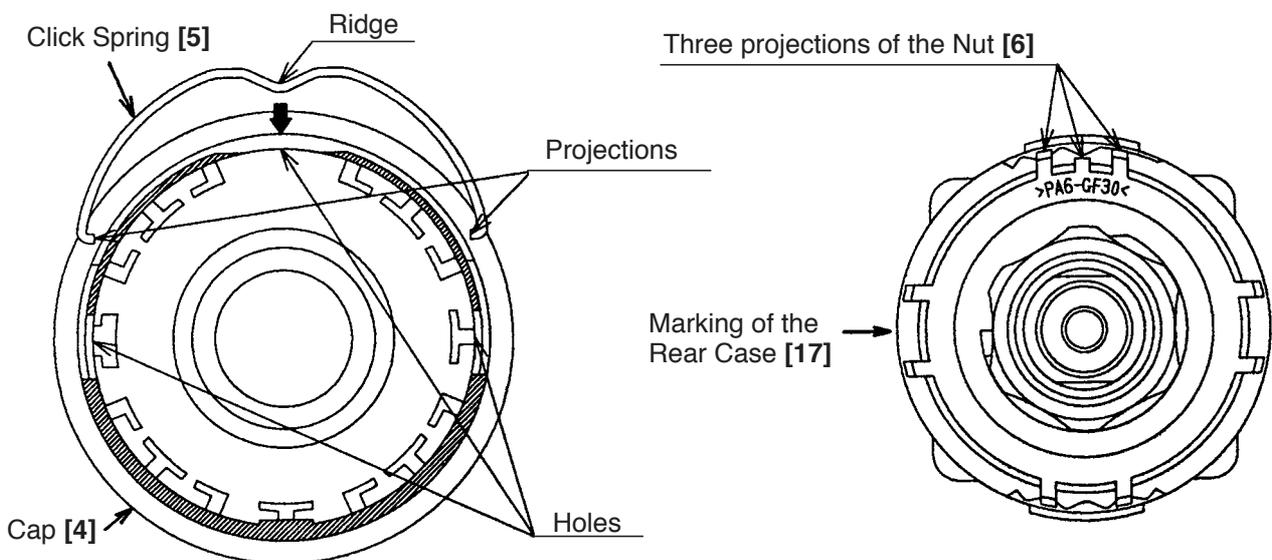

Fig. 12
- (g) Install the Click Spring [5] and the Cap [4] to the assembly reassembled in step (b). (See Fig. 12.)
- (ii) When the Nut [6] is screwed in the Front Case [9] about one and a quarter turns, the three projections of the Nut [6] and the marking of the Rear Case [17] are positioned as shown in Fig. 12. Mount the Cap [4] aligning the ridge of the Click Spring [5] with the three projections of the Nut [6].